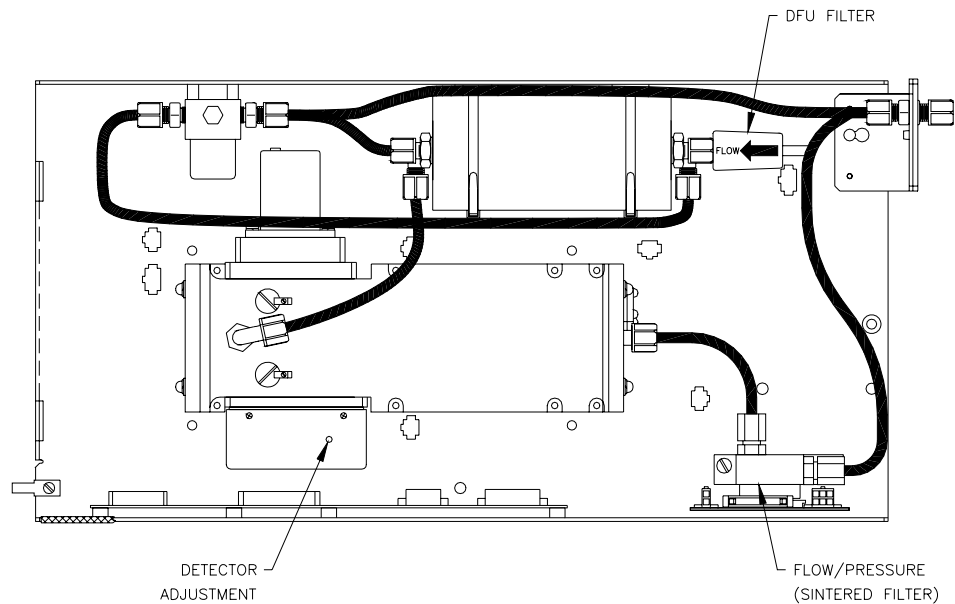

Figure 13. Routine Maintenance Components (B Series)
2. Disconnect the pneumatic and electrical connections from the flow/pressure assembly and remove the block from the analyzer. Refer to Figure 13.